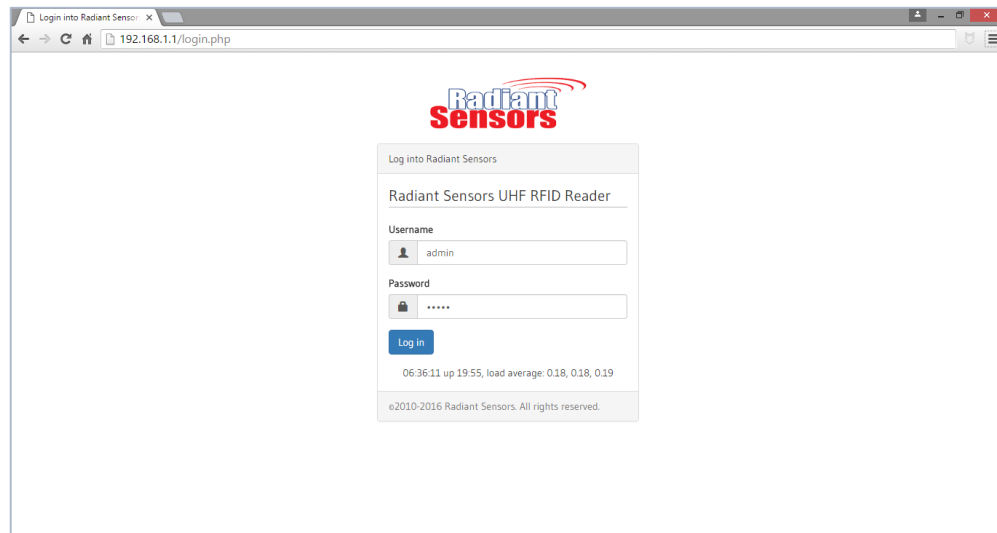

Figure 5, Login Page
- 3- Launch your browser and in its address field type <http://192.168.1.1> to proceed to the login page. If you can see the login page as per Figure 5, it means that you can connect to **RSWR-400**. Otherwise, contact Radiant Sensors support team to resolve the problem.